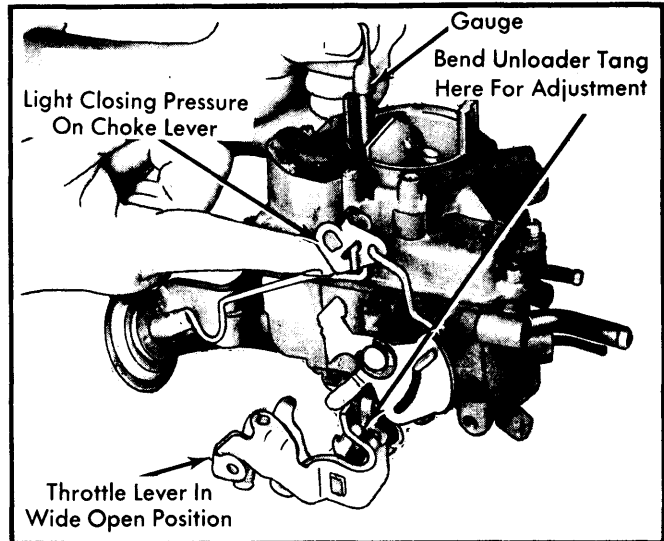

Fig. 4 Adjusting Choke Unloader
- 1) Hold throttle valves in wide open position. Hold choke valve toward closed choke position by applying light closing pressure to choke lever. See Fig. 4.